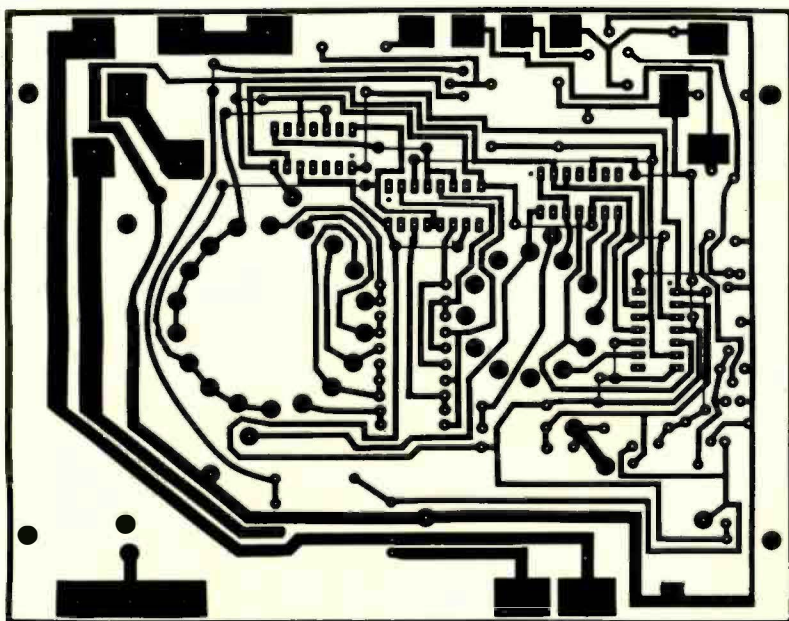

FIG. 6—PATTERN FOR THE PC BOARD. It is 6 inches wide and 4 1/4 inches high overall. Use it to make photographic copy for your board.
MISC: 4 1/4" x 6" PC board (See text and Fig. 3, 4 and 5), case, bottom plate, end brackets (2); switch hardware; 1 1/4" push-on knobs; dial assemblies including 3/4" knob (2), (See Fig. 6 and 7); mounting bracket and red filter (APM 1813-27-R5) and socket for pilot lamps (2); 3 prong ac safety outlets (2); PC board mounting brackets (2); Line cord and strain relief; feet (4); 6-32 hardware; jumpers, sleeving, wire, solder, ground lug, remote control plug and socket, etc. . . .
A printed-circuit board is a must for this project and may be obtained commercially or the pattern in Fig. 6 may be used. Drilling and layout details are given in Figs. 2 and 3. Fig. 4 shows component and wiring locations.